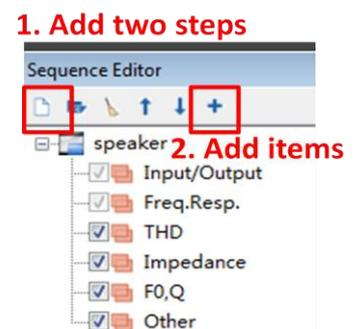

Figure 5.38 Test Steps
2) Add items, such as impedance, F0 and Q value for speaker test, as shown in Figure 5.38.